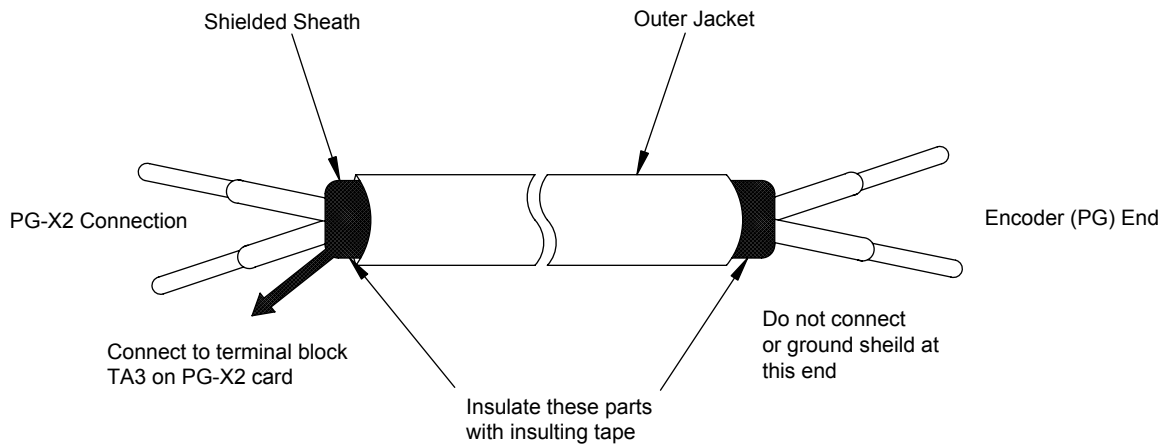

Fig. 5 Shielded Wire Termination
- Use a shielded wire to connect the encoder (PG). Connect the wires as shown in *Fig. 5* to prevent noise interference. The wire distance must be 328 ft. (100 m) or less.
- If the PG signal is affected by noise, disconnect the grounding lead wire (E) from the grounding terminal (G5: 12 (G), G7 or F7: E (G)) of the control board of the Inverter.